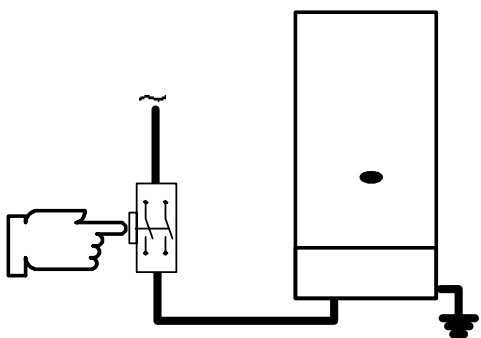

fig. 3.1
- a fused spur isolation switch, with a gap of at least 3 mm between the contacts (fig. 3.1) must be installed near to the boiler. Refer to section 3.9 in this chapter for the electrical connections.